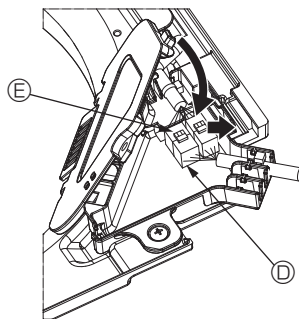

Fig. 6-10
- ③ After placing the wires in the connector box, close the connector box cover. Make sure that the wires do not get pinched. (Fig. 6-10)